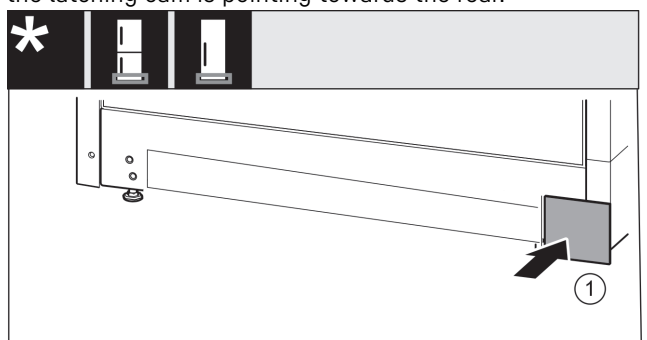

Fig. 17
- Re-attach the cover Fig. 17 (1) to the other side.